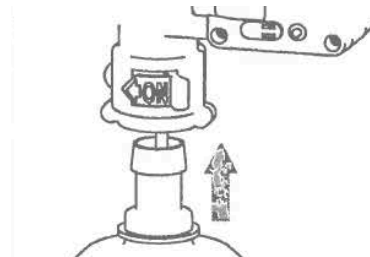

FIGURE 4
4. To remove the bottle, press the "on" button in the direction of the arrows. The bottle should then drop freely. **See Figure 4**